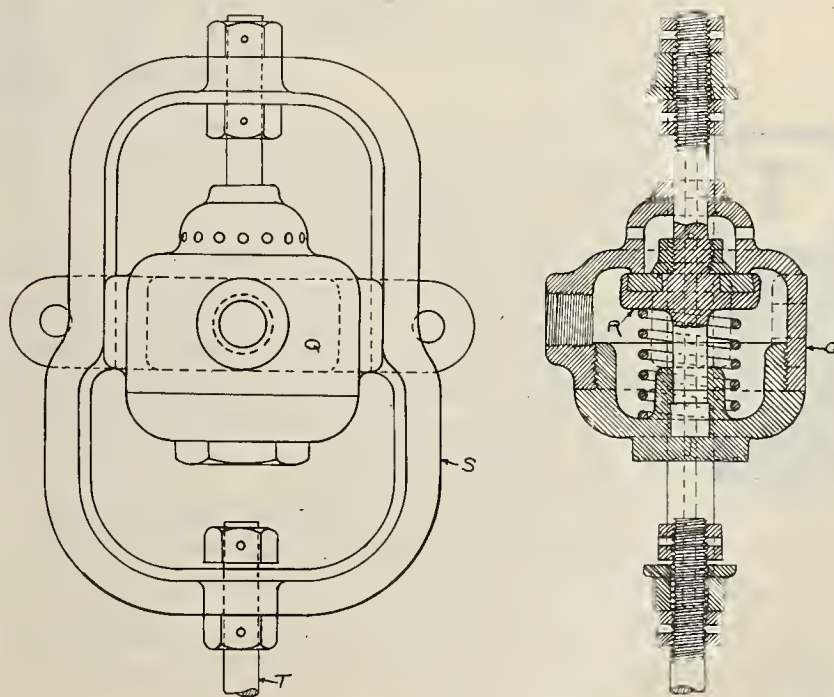

FIG. 4—DEVICE FOR REGULATING THE BRAKING POWER OF CARS.
Valve body Q is attached to bolster P, and valve R in Fig. 4 is unseated by the raising of body bolster center plate P from the center plate of truck bolster F by the yoke S and rod T, which rod (T) is attached to truck bolster F.
When valve R, Fig. 4, is unseated, the brake cylinder pressure is reduced by exhausting the excessive brake cylinder pressure to the atmosphere, until valve R closes, which will occur when the retarding force on the wheels has been reduced to the pre-determined proportion of the weight of the car on the rail.